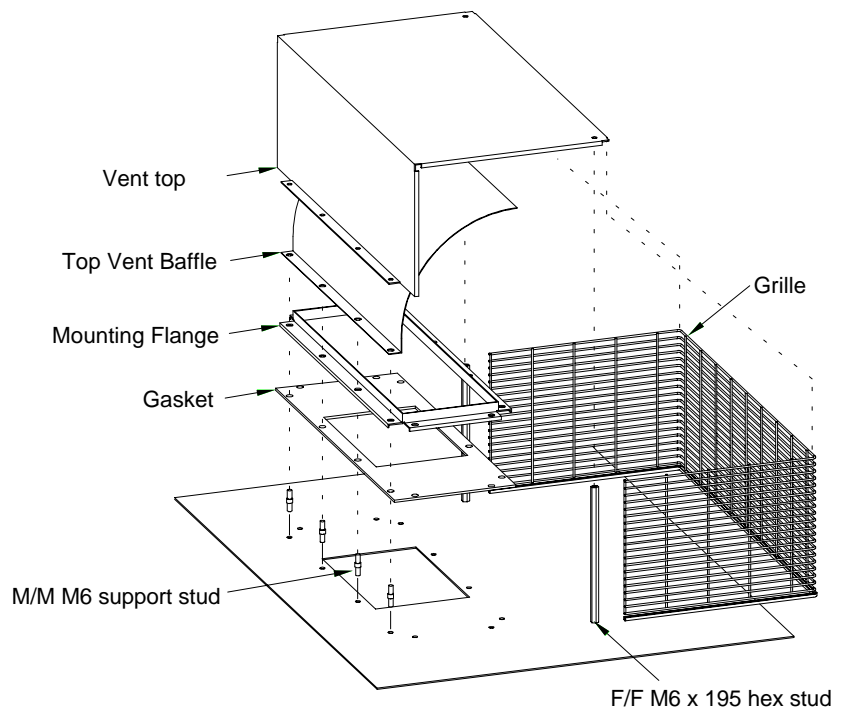

Figure 3-8 Top Vent and Gasket Assembly
**Note:** Refer to Figure 3-8 Top Vent and Gasket Assembly.